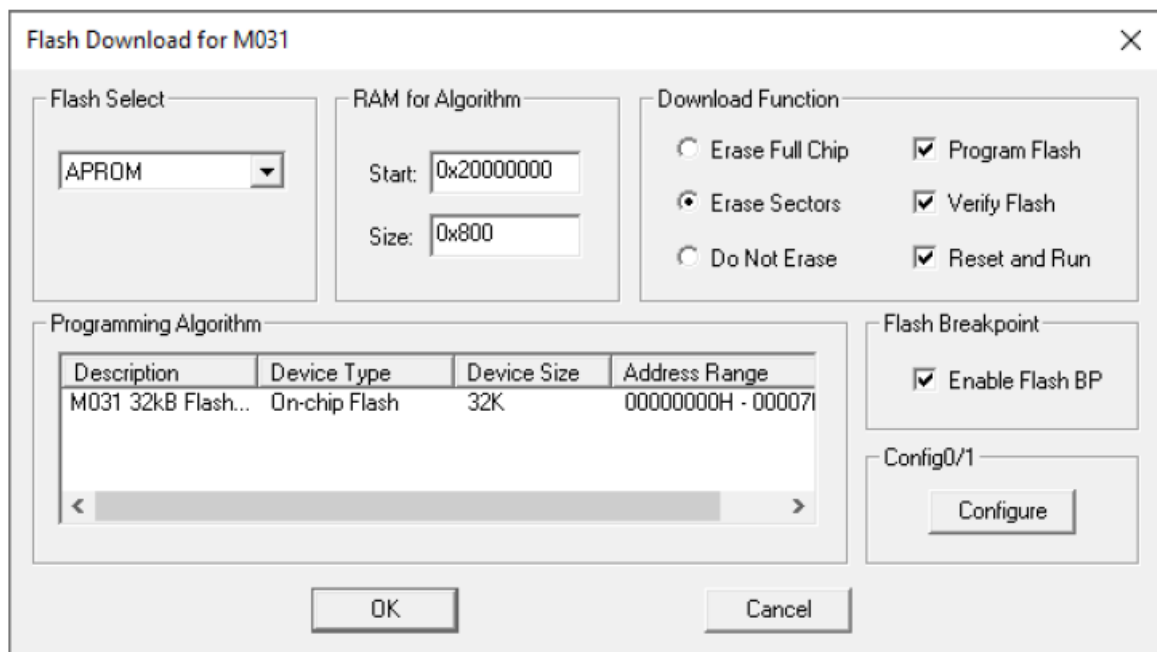

Figure 4-13 Nu-Link Adapter Programming Settings
Step 7: Click the Settings button to open the Flash Download form, as shown in Figure 4-13 where the user can specify the options before or after programming with the Nu-Link Adapter.